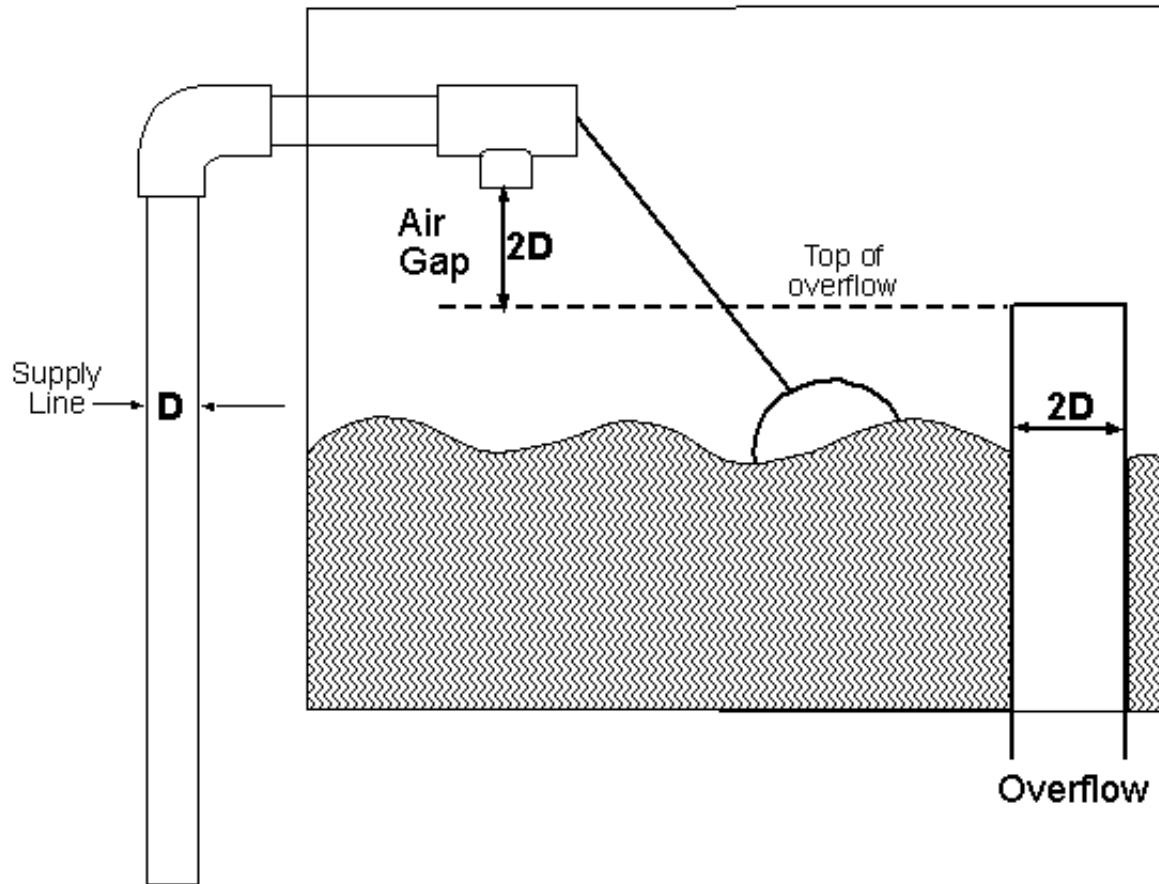

Figure 7. Multiple Overflow Requirements
2. Multiple Overflows \(Figure 7\)
See Figure 7 for an example of overflow requirements with more than one overflow.